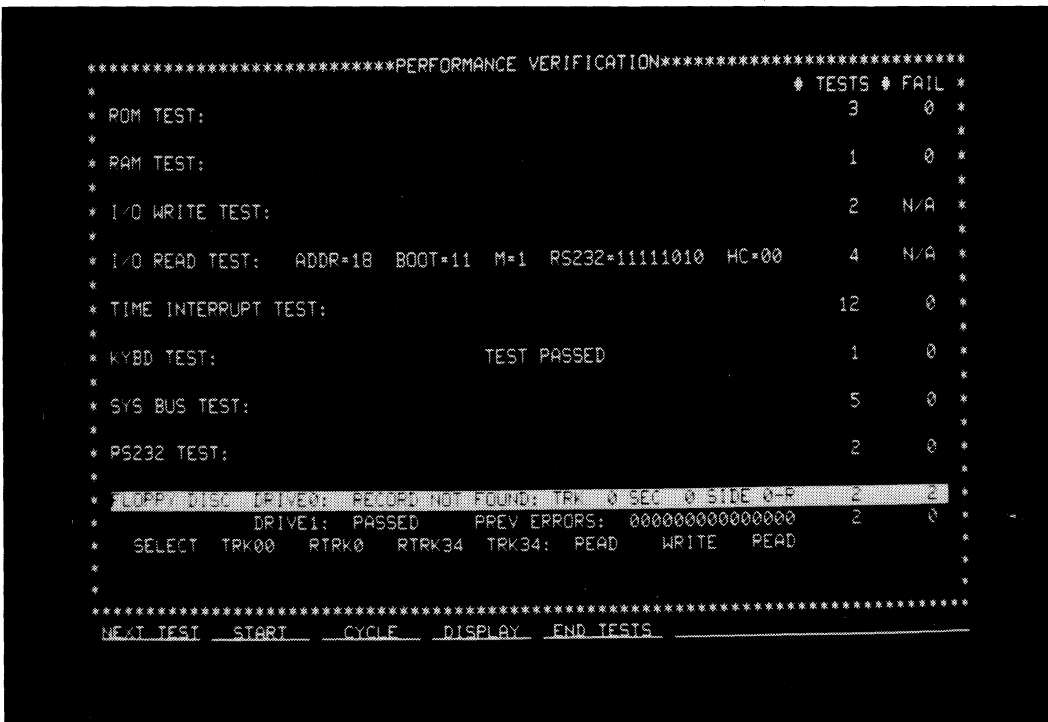

Figure 4-2. PV Test Display
- d. Press the NEXT TEST softkey until the FLOPPY DISC DRIVE test is displayed (see fig. 4-2).